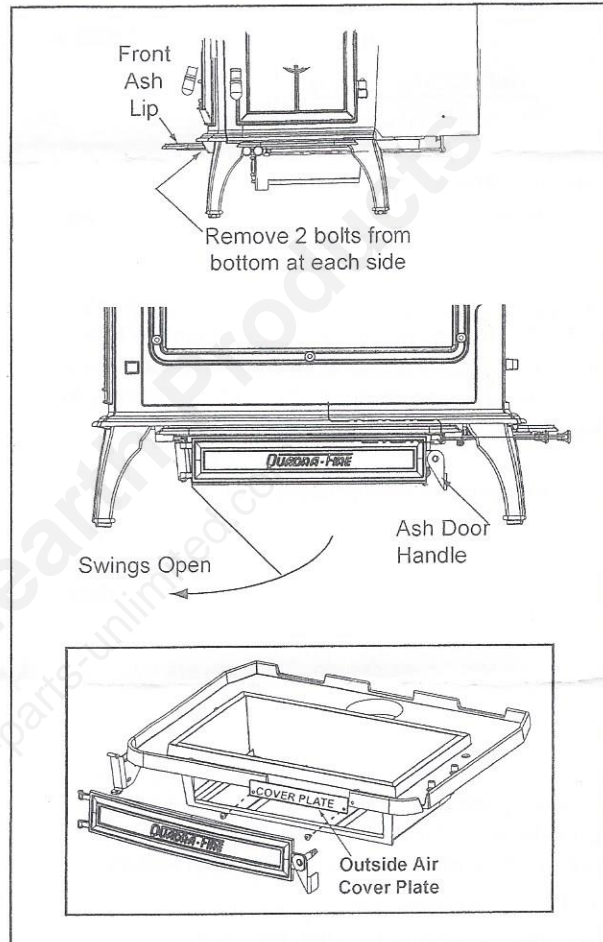

Figure 4 - Yosemite
1. Remove ash lip by using a 7/16" wrench and remove the 2 bolts underneath the ash lip. Carefully lower and set aside. **Figure 4.**
2. Swing open ash removal door. **Figure 4.**
3. Remove 2 screws from the stove bottom. Place cover over the air opening and secure with same 2 screws. **Figure 4.**